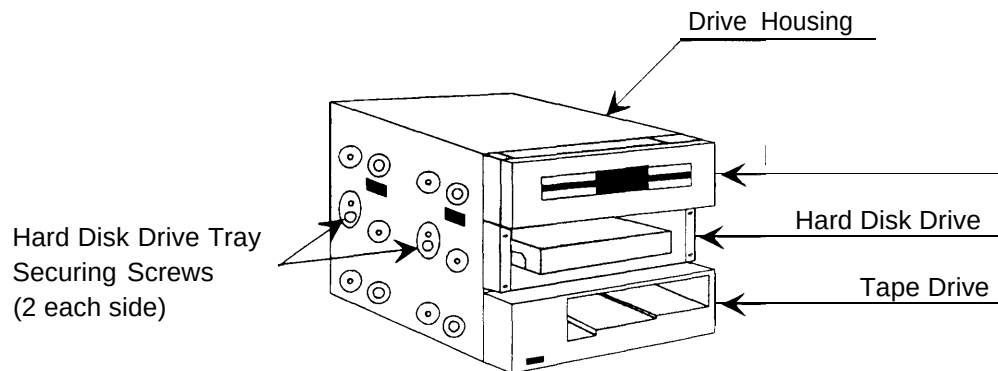

Figure 3-25. Hard Disk Drive Tray Securing Screws
10. Refer to Figure 3-25. Remove the two screws on each side of the drive housing that secure the hard disk drive tray.
18. Secure the drive tray to the drive housing with the same two screws on each side that you removed earlier as shown in Figure 3-25.